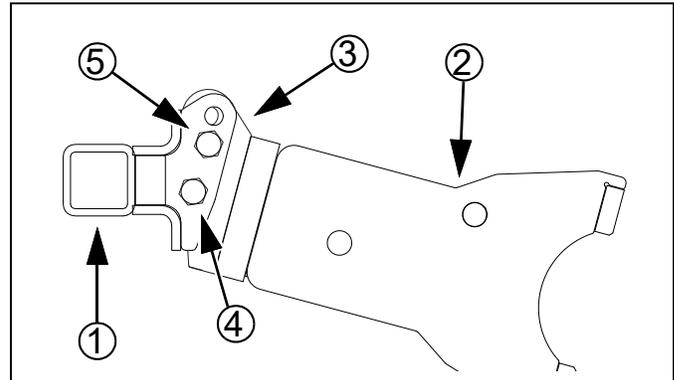
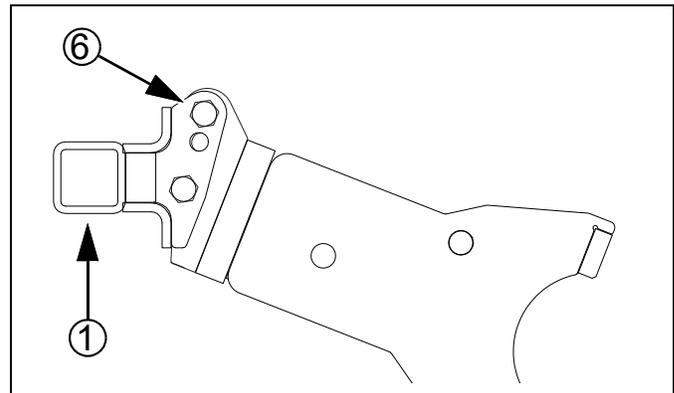

Figure 50
Figure 51
**Refer to Figure 50 and Figure 51**